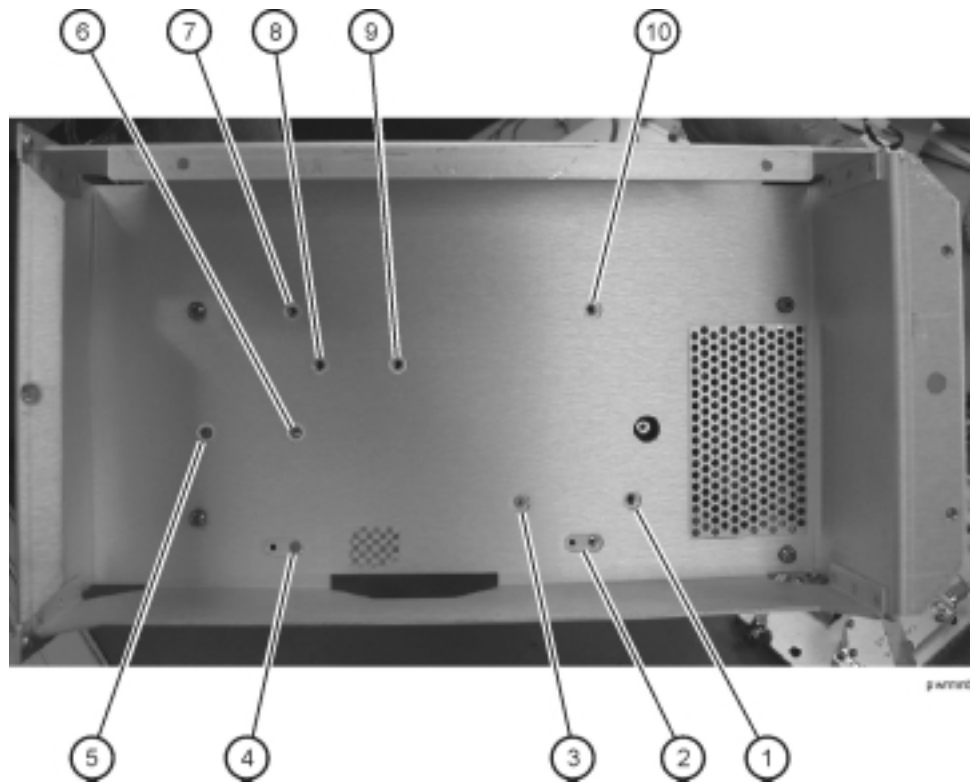

Figure 3-58. The power supply mounting screws
- 5 Disconnect all ten of the T-10 TORX screws from the right side of the power supply. The larger T-15 TORX screws (on newer models, use a T2-20 TORX screws) are used to attach the extension bracket to the side of the system chassis. This bracket can remain attached during the removal of the power supply. See ① through ⑩ in Figure 3-58 below.